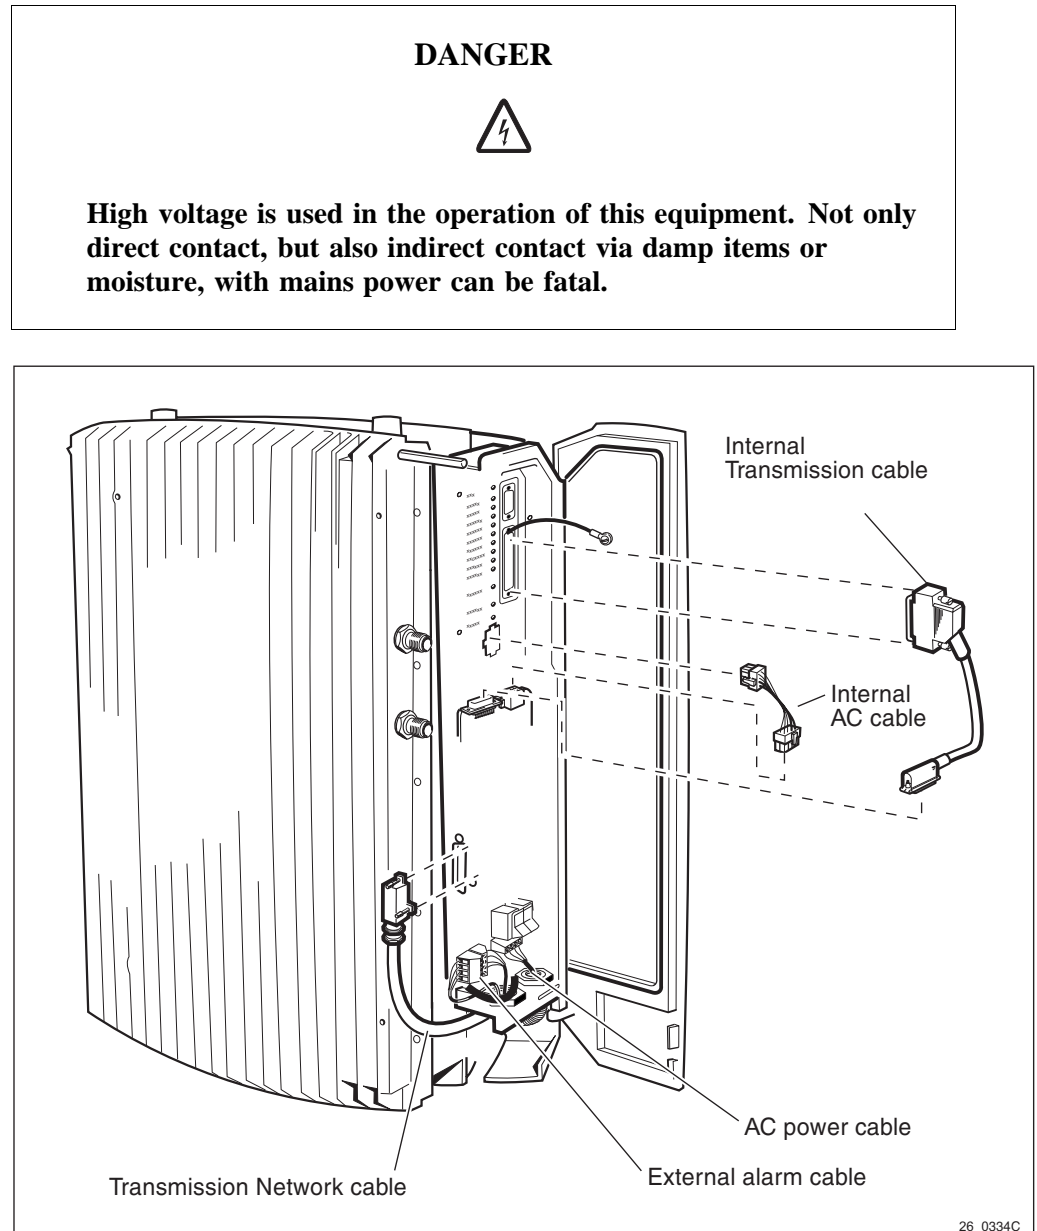

Figure 139 Overview of the cables
13. Connect the new cable, *see Figure 139 on page 199*.